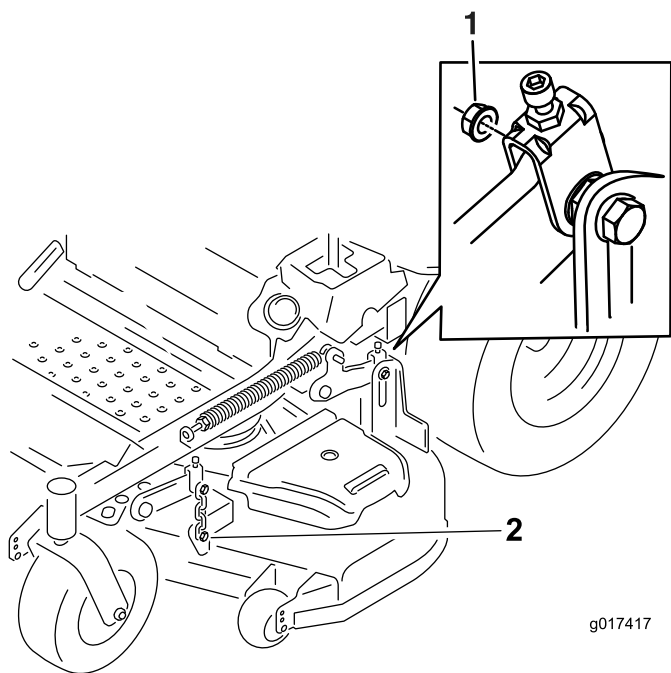

Figure 81
7. Remove and retain the hardware on both sides of the deck as shown in Figure 81.